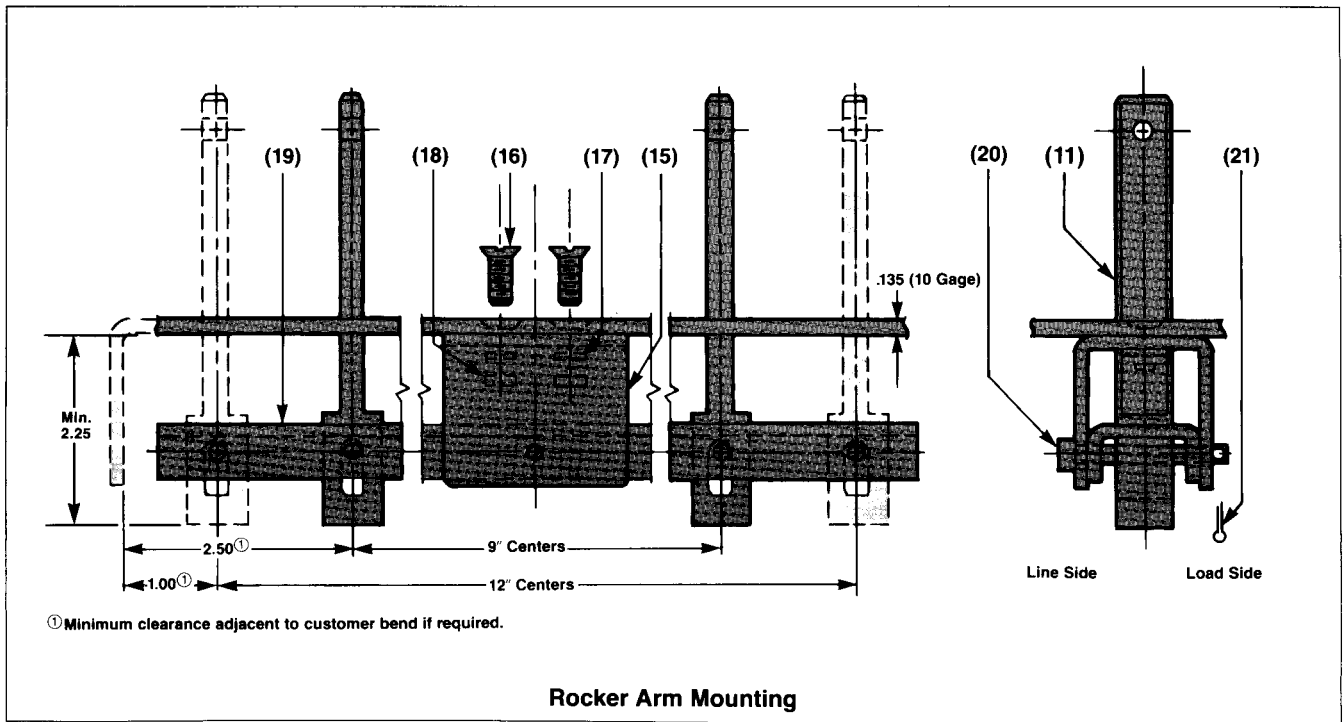

Figure 7
B. Assemble bracket (15) to rear of 10 gage customer panel using two flat head screws (16), lockwashers (17) and nuts (18) supplied as shown in Figure 7.
C. Assemble rocker arm (19) to bracket with rocker arm pin (20).
NOTE: Heads of rocker arm pin must be on upper side of assembly and cotter pin (21) on lower side. Insert cotter pin into hole in rocker arm pin and secure by spreading ends (Figure 7).
E. Assemble rocker arm pins through rocker arm and slot in plunger and insert cotter pin into hole in pin and spread ends (Figure 7).